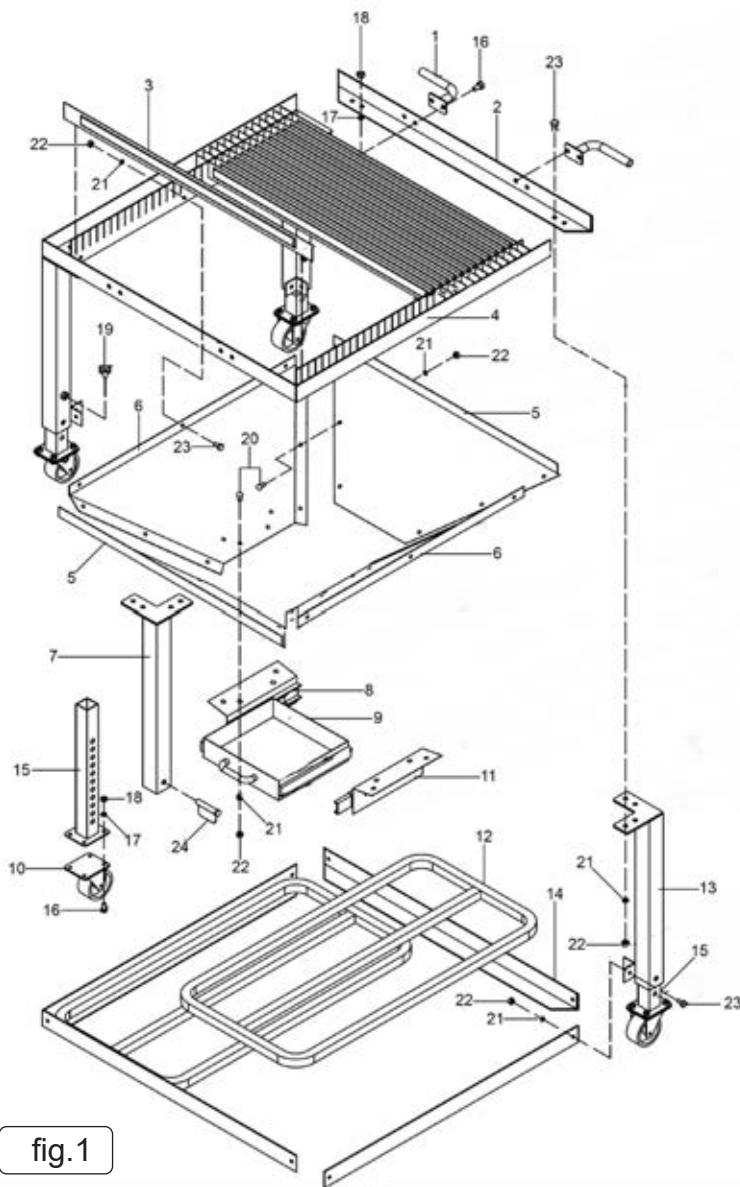

fig.1
- 5.3. Fix main beams (fig1.2, fig1.4) to top of foot supports using fixings (fig1.21, 1.22, 1.23). Note positioning of main beams (see fig1).
- 5.5. Lay platform bases (fig1.12) into lower section (see fig1).
- 5.6. Fix funnel side plates to main beams (fig1.2, fig1.4) using fixings (fig1.21, 1.22, 1.23). Note positioning of side plates (see fig1).
- 5.7. Fix drawer supports (fig1.8, fig1.11) using fixings (fig1.20, 1.21, 1.22) (see fig1.).